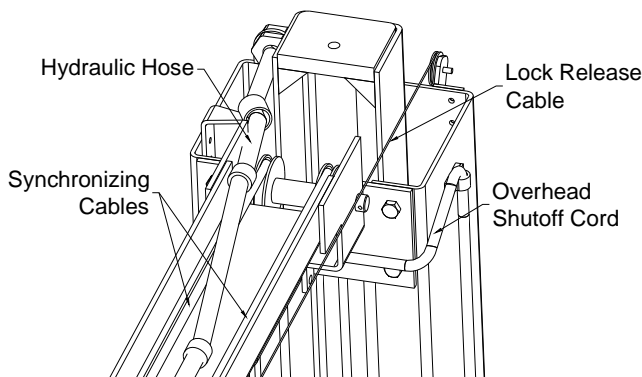

Fig 6 – Hose Routing (Power Side)
- 2) Assemble column extension to column using M12 x 30 Hex bolts. Repeat for opposite column and extension. Install power column extension on power column, see **Fig 6**.
- 12) Install Overhead Limit Switch under the Overhead Assembly on the Power Side. Route cable around outside of column as shown in **Fig. 6**.
- 22) Beginning on the idler side start with the Idler Extension hose at the elbow fitting (This hose has a male fitting on one end and is removed for reduced height installations). Continue with the Idler Column Hose (long) up the backside of the column through the two capture rings and guide at the top of the extension. Continue across the overhead through each of the guides as shown and down the backside of the power column. **See Fig 6.**